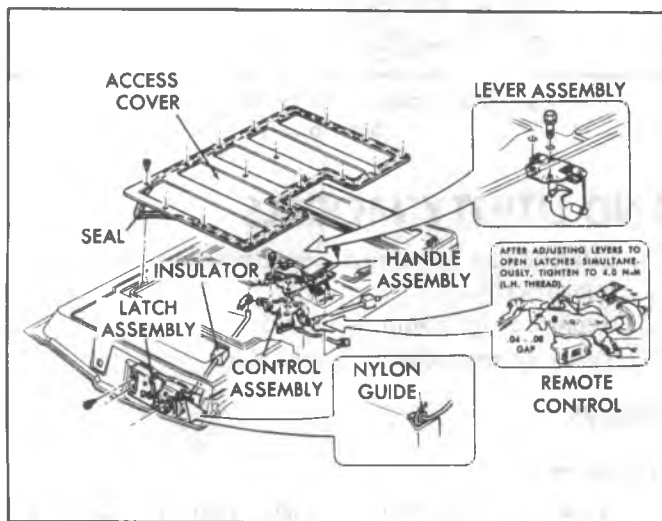

Fig. 2D-59--Latch and Remote Controls(Suburban)
9. Remove screws connecting window regulator assembly to endgate, figure 2D-60, and remove regulator.
- a. Drill a 1/8 (3.1mm) inch hole through the sector gear and back plate, as shown in figure 2D-60. Install a sheet metal tapping screw into the hole to lock the sector gears in position.
11. From inside the endgate, remove the nuts fastening the outside handle to endgate and remove the outside handle. See figure 2D-61.